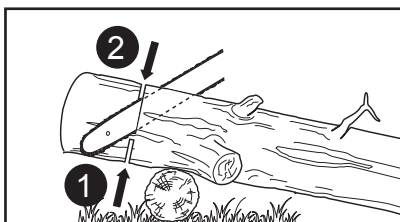

Fig. 31
2. When the log is supported on one end (Fig. 31), cut 1/3 the diameter from the underside (underbuck). Then make the finished cut by overbucking to meet the first cut.